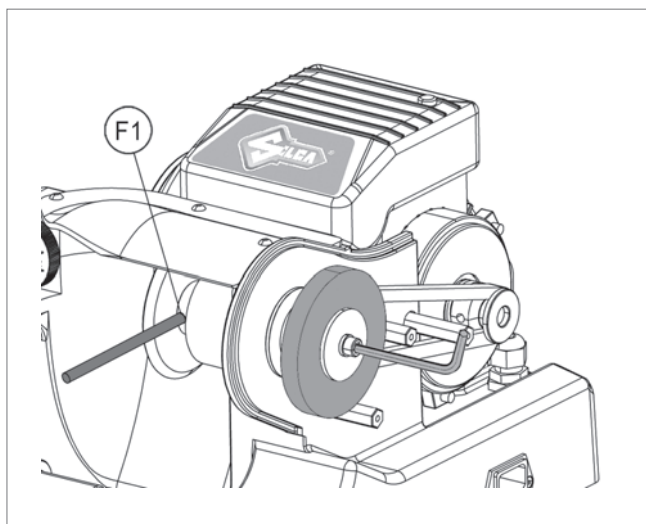

Fig. 34
- 2) Slot the locking rod (provided) into the hole (F1) of the cutting tool shaft (Fig. 34).
- 3) Use the Allen wrench to loosen the screw holding the brush in place (Fig. 34).
- 6) Place the cover (P) and secure with the 3 screws (P1).